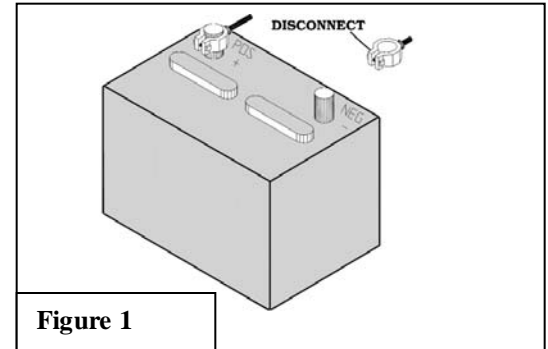

Figure 1
- ✚ 1. It is advisable to disconnect the negative battery cable for 3 minutes before beginning installation, to avoid unintended air bag deployment. Note and record any anti-theft radio codes prior to disconnecting. **Figure 1**